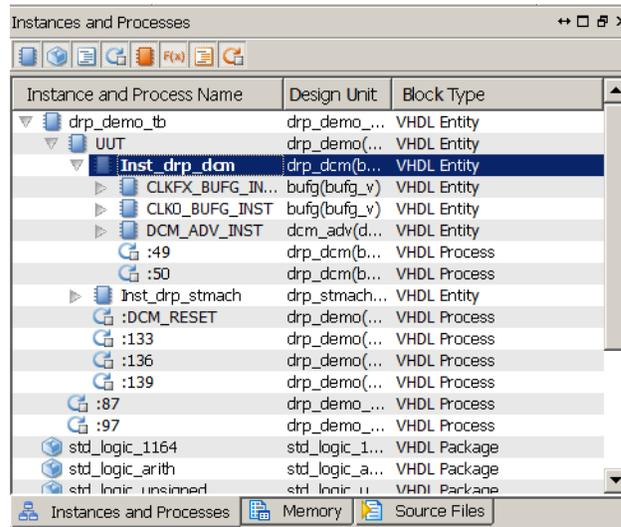

Figure 4-16: Instances and Process Panel
1. In the Instances and Processes panel, expand the hierarchy under `drp_demo_tb` as shown in Figure 4-16.